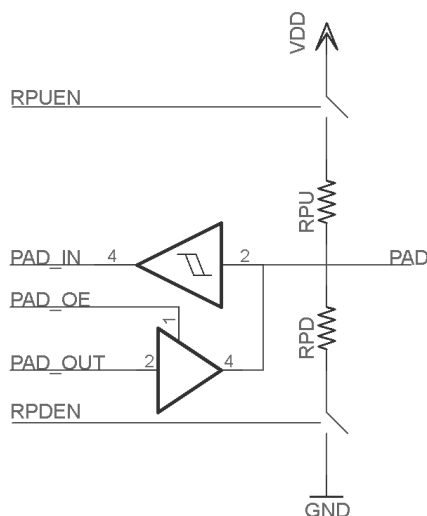

Figure 3-4 The IO PAD with controllable pull-up and pull-down
- If user SoC Chip’s IO PAD does not have “Bus Keep” feature, it can be implemented with “IO PAD with controllable pull-up and pull-down of” to achieve it, as depicted in Figure 3-4.